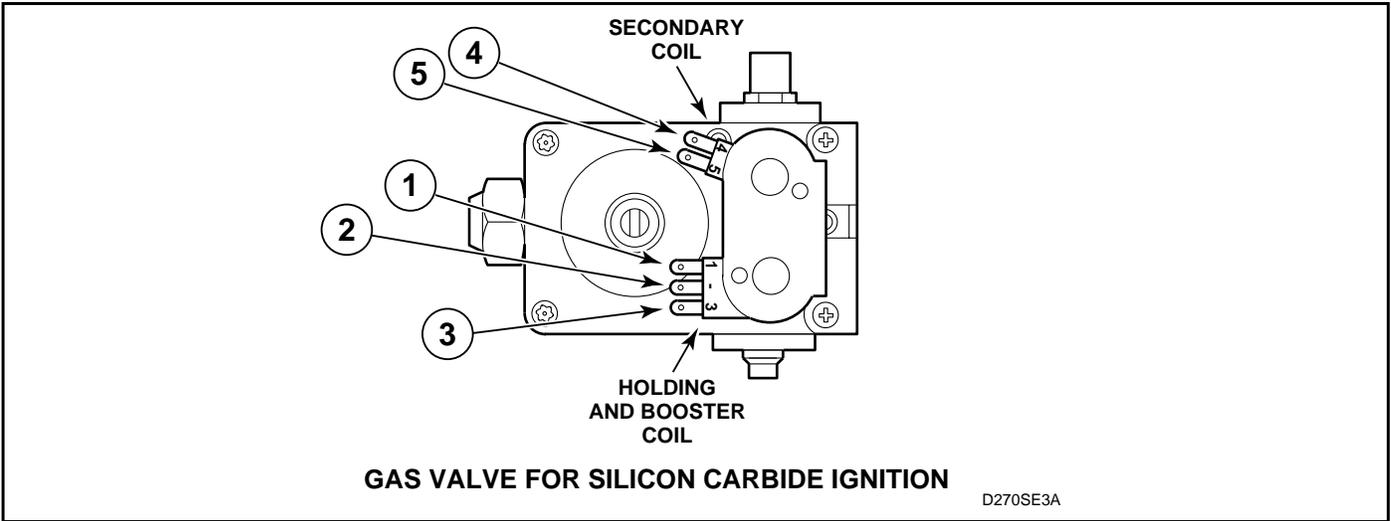

Figure 61
- e. Set test meter to read Ohms and put meter probes to terminals as in *Figure 61*, and in the following chart.